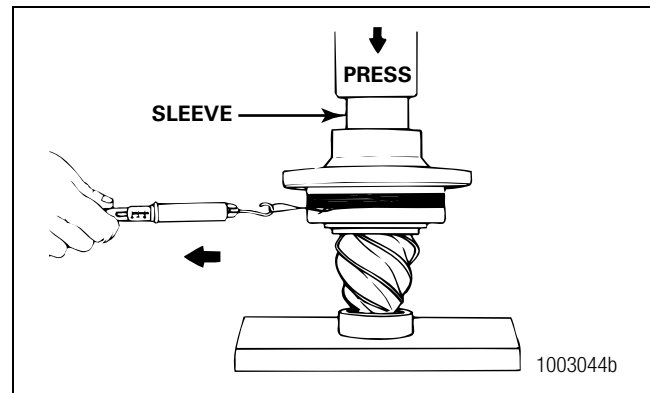

Figure 5.13
2. Install a sleeve of the correct size against the inner race of the outer bearing. Figure 5.13.
6. Pull the cord on a horizontal line. As the bearing cage rotates, read the value indicated on the scale. Record the reading. Figure 5.13.